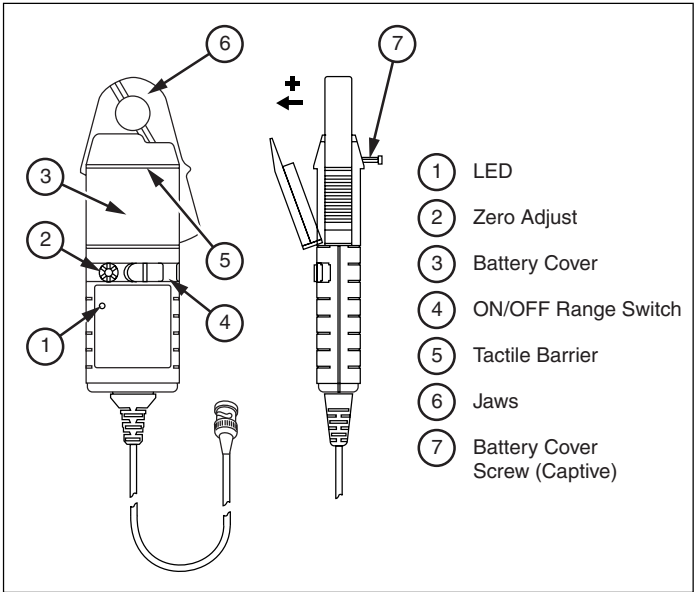

Figure 1. i310s AC/DC Current Clamp
To avoid injury, when using the Clamp, ensure that your fingers are behind the protective barrier as shown in Figure 1.
The red LED will flash when the minimum operating voltage is approached. Refer to Figure 1. Use the following procedure:
2. Loosen the captive screw that secures the battery cover. Lift the cover through 30° and pull it clear of the Clamp body as shown in Figure 1. The battery is then accessible. Replace the battery and re-fit the battery cover and fasten the screw.